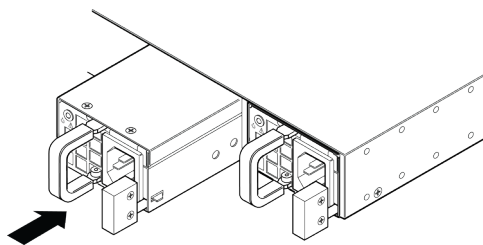

Figure 205: Installing a Summit AC Power Supply (770 W Model Shown)
4. Carefully slide the power supply all the way into the power supply bay, as shown in Figure 205.